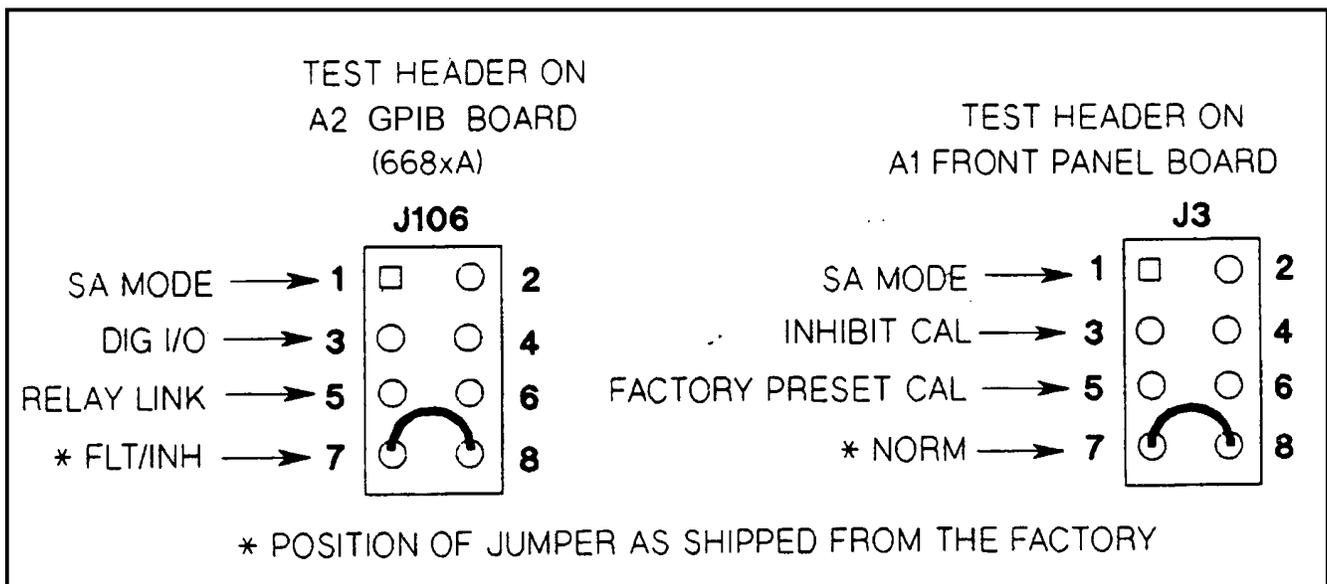

Figure 3-14. Test Header Jumper Positions
10. Pulses should be present on both sides of inductors L201-204 or L301-304 and L213-216 or L313-316 as follows: Check the pulses on the driver transistor side (Q251-Q254/Q351-Q354) of each inductor. Check the pulses on the FET regulator side (Q201-Q204, Q301-Q304, Q211, Q311, Q222, Q322, Q233, Q333 and Q244, Q344) of each inductor. If the waveforms do not have the fast step as shown in Figure 3-14, then the associated FET gate input has an open circuit.	See Figure 3-14D. See Figure 3-14E.
11. Measure the VREF voltage at U205-2 (35) .	≈ 1.7V